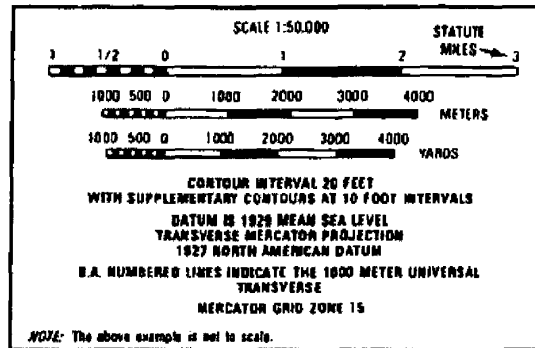

Figure C-27. Bar scales
2. Convert a straight-line map distance to miles, meters, or yards using the map's bar scale (figure C-27).